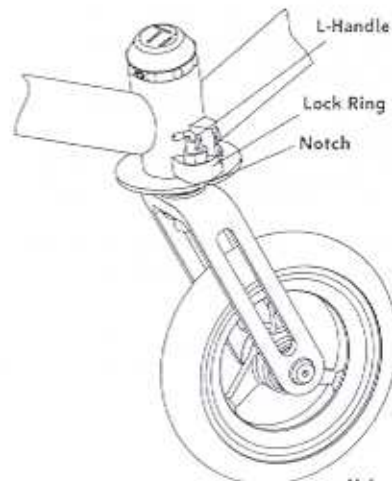

Figure 26
- Note: Figure 26 depicts the caster pin lock in the unlocked position.